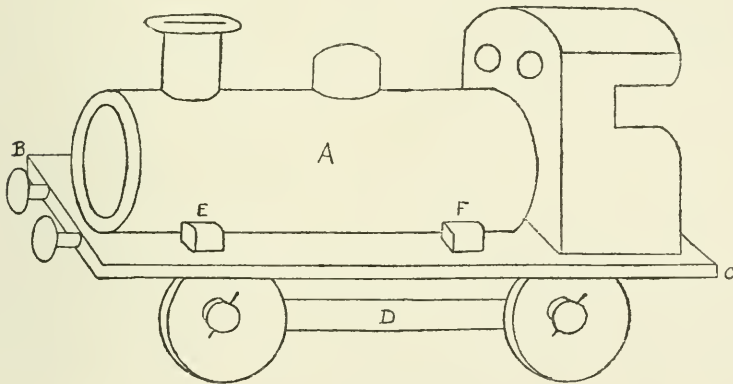
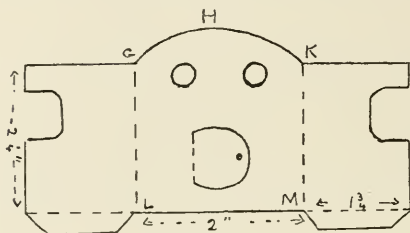

FIG. 230
Fig 231
A Train. (1) *The Engine* (Fig. 230). The body of the engine, A, is a long mantle-box or a piece of old curtain pole, about $4\frac{1}{2}$ inches long. The wooden bottom, B C, is $6\frac{1}{2}$ inches by $2\frac{1}{4}$ inches. A is glued to B C and kept in position by wooden blocks, E and F. The funnel and the dome are made from corks or pieces of round wood; their ends must be slightly concave, so that they may fit securely to A. A ring of cardboard is gummed to the top of the funnel, which may
The cab is made of cardboard, as shown in Fig. 231, and is coloured to match the engine. G K L M is gummed to the back of A (Fig. 230), and its sides are fastened to the footplate by the flanges.
cardboard, coloured black (D in Fig. 230), are glued to the wooden blocks behind the wheels.